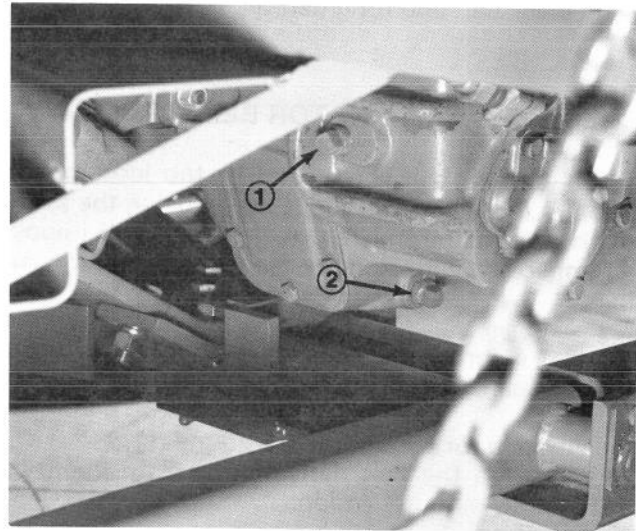

Figure 22
2. Remove the filler plug and check the fluid level (Figure 22).